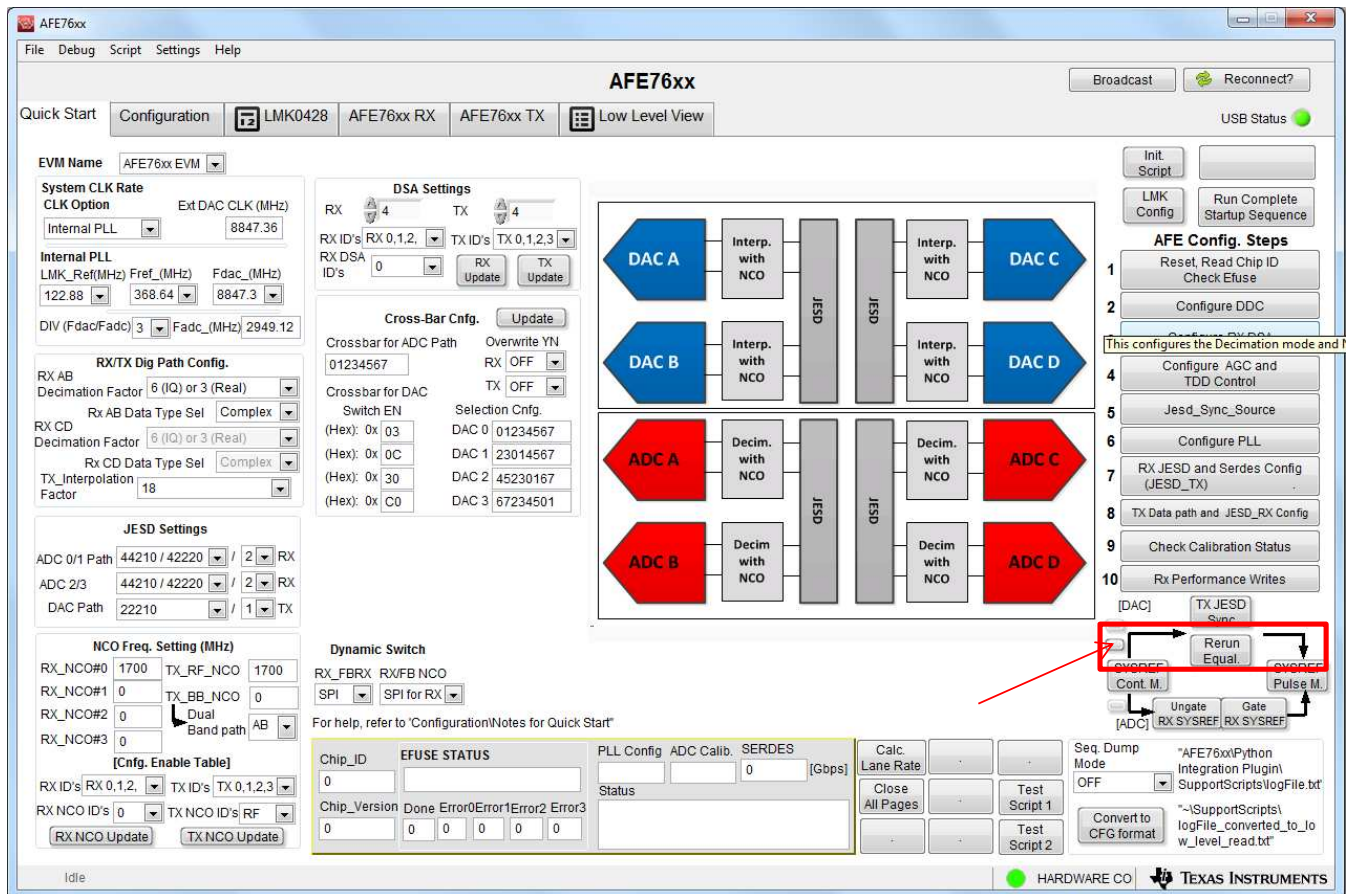

Figure 17. JESD204B DAC Re-Equalization and Resync Process
- If the previous step still does not work, click on the Rerun Equal button, (see Figure 17). This manually readapts the SERDES receiver, manually resets the JESD204B core, and forces the re-handshake of the JESD204B link.